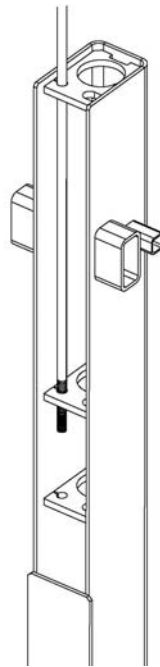

Figure 15: Cable routing
10. Insert the threaded stud into the 5/8" dia. hole in the mounting bracket second from the top of the carriage. **(Figure 15).**